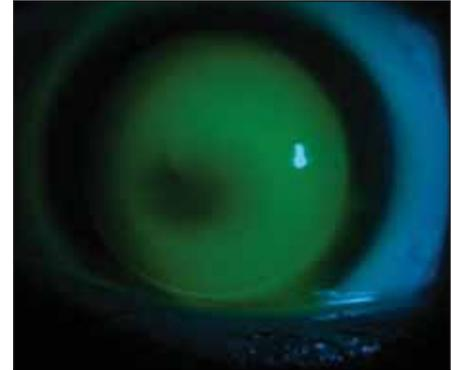

Figure 8: SynergEyes KC lens with central apical touch
2. Central touch - if you observe central touch in the RGP portion of the lens (Figure 8), resolve by **STEEPENING** the base curve. If the central touch is significant, you may want to steepen the base curve by more than 0.2mm - try two or even three lenses steeper. Although this might seem like a huge jump, on the eye these seemingly large changes are much less dramatic.